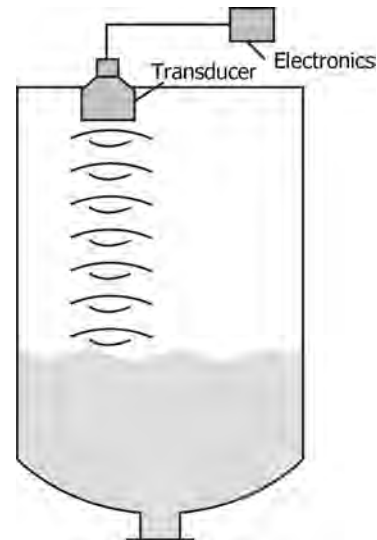

FIGURE 1.18 Ultrasonic level measurement.
- **Ultrasonic Methods:** Ultrasonic technology uses a piezoelectric crystal stored inside a transducer to convert an electrical signal into sound energy. The sound energy is fired toward the material and is reflected back to the transducer (Figure 1.18).